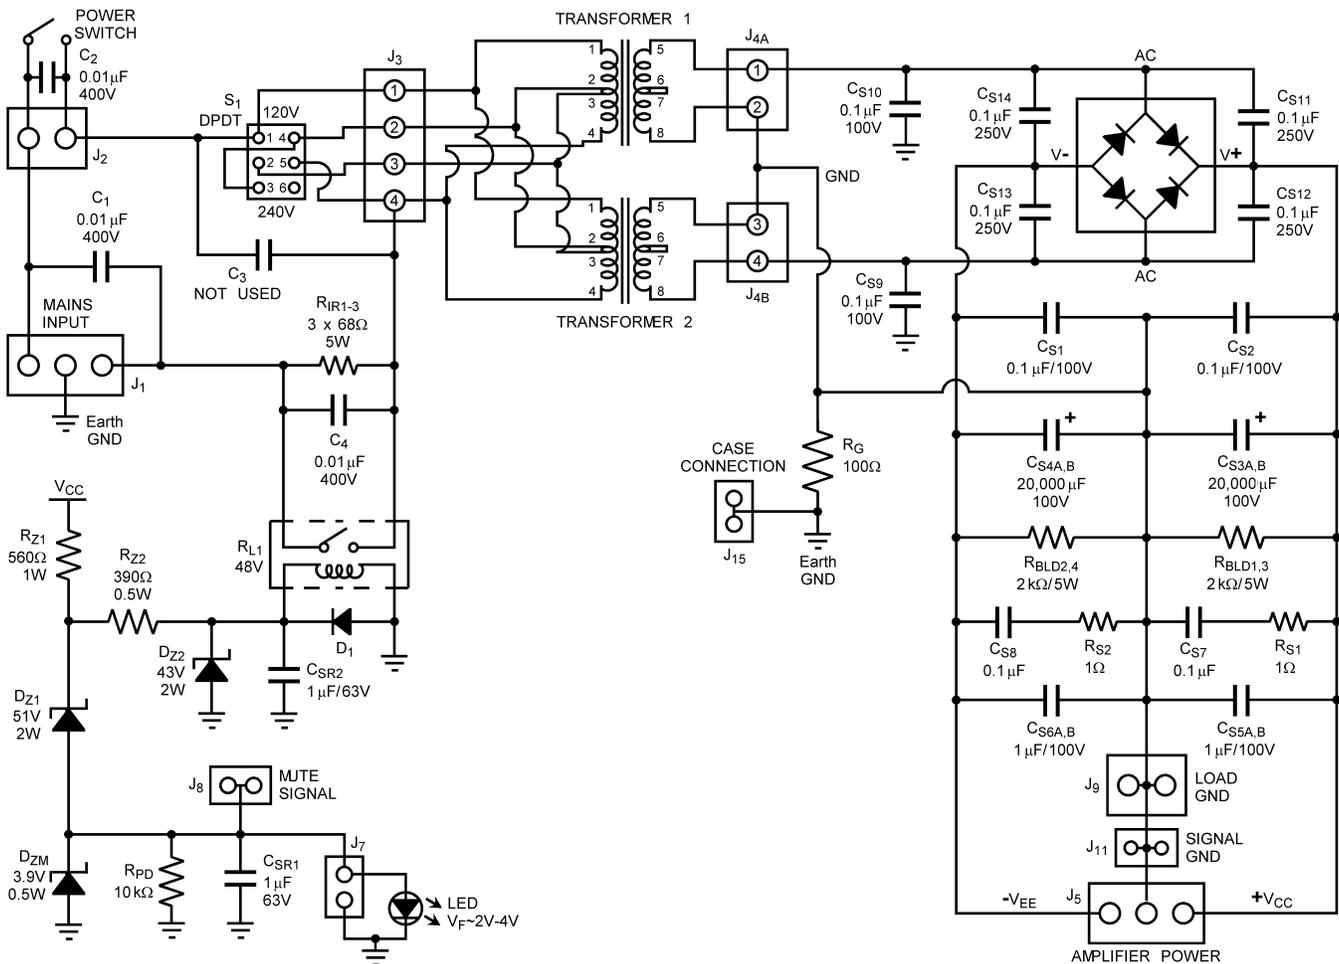
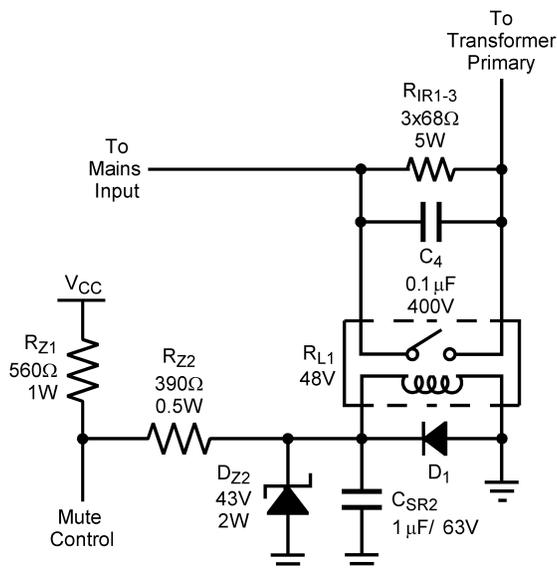

Figure 1. Complete Power Supply Circuit
Figure 4. Inrush Current Control
**Figure 1** shows the complete schematic of the power supply design. The heart of the design is the basic power supply consisting of the transformers, the bridge, and various capacitors. Many of the capacitors used may not be commercially necessary or may have a minimal effect on performance. Because the design is not a commercial design where tight cost constraints must be taken into account, additional capacitors are freely used. For a commercial design, bench and listening test, or some other test, criteria is recommended to determine the exact number, size, and type of external components required. A short explanation of the purpose of each capacitor at the primary side of the transformers, around the bridge and on the supply rails follows. Some capacitors are doubled up on the PCB for flexibility or to achieve the desired total capacitance.
A simple inrush circuit is used to limit the high current that occurs at power up. The portion of the schematic that controls inrush current is shown in Figure 4.
The inrush circuit consists of three 68-Ω/5-W resistors ( $R_{IR1}$ – $R_{IR3}$ , labeled just  $R_{IR}$  in Figure 1 and Figure 4) in parallel, a relay and the relay controls. The  $R_{IR}$  resistors limit transformer primary current flow and the resulting secondary current flow when the transformer is powered for a softer turn on. Once the  $V_{CC}$  rail voltage exceeds 33 V, the relay is activated, shorting out the resistors. The relay is deactivated when the  $V_{CC}$  voltage falls below 10 V, resetting the circuit. The circuit is very simple and does not limit inrush current if the mains power is switched on before the  $V_{CC}$  rail drops below 10 V. The relay control consists of the  $R_{Z1}$  and  $R_{Z2}$  resistors to limit current through the voltage clamping  $D_{Z2}$  Zener diode.  $D_{Z2}$  limits the relay voltage below the maximum 48 V rating. The  $D_1$  diode is for the relay coil EMF and  $C_{SR2}$  is to remove ripple and stabilize the relay voltage. The oscilloscope view in Figure 5 shows how the positive rail charges up with the increase in charge rate once the relay is closed shorting out the inrush current limiting resistors. The  $R_{IR}$  resistors will get warm but they are only conducting for 500 ms each time the amplifier is powered on keeping the power dissipation well within the 5-W rating.